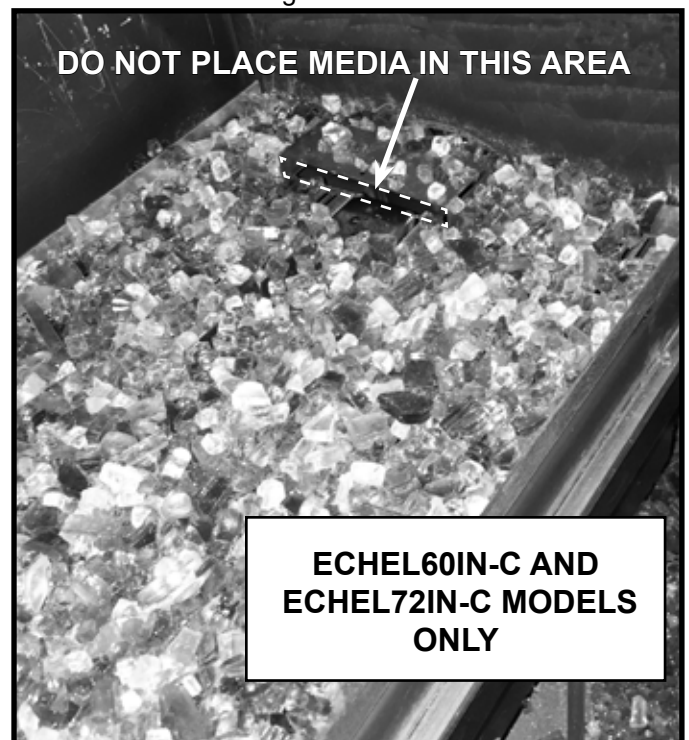

Figure 7. Media Placement Restriction Area
- ECHEL60IN-C and ECHEL72IN-C ONLY:** **DO NOT** place media in front of opening on right side of the burner (60 and 72 only). Flame appearance will be affected. See Figure 7.